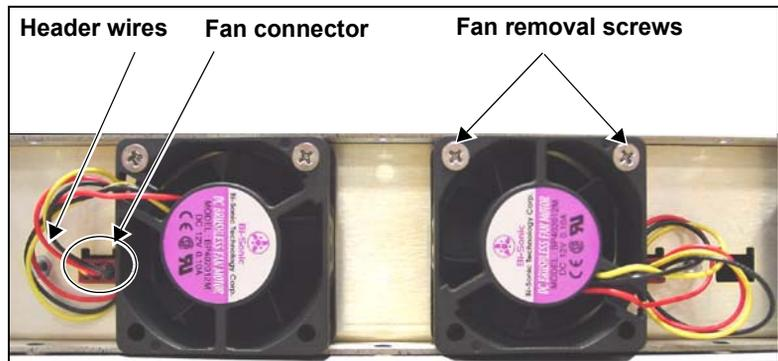

Figure C-55. Removing Header Wires from Fan Assembly Connector
4. Identify the fan you are replacing on the back side of the front panel, and then remove the corresponding header wires from the fan assembly connector. (See Figure C-55.)